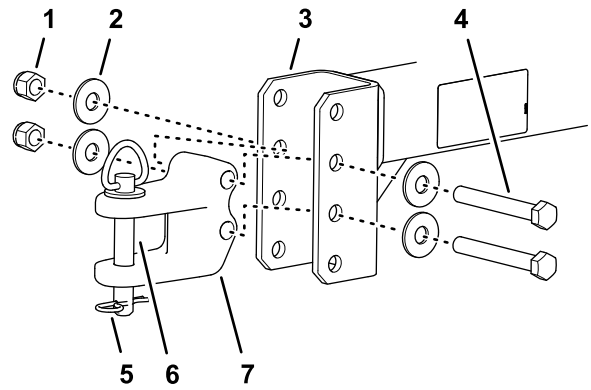

Figure 6
- Assemble the hitch clevis to the tongue with the 2 capscrews, 4 washers, and 2 locknuts (Figure 6).
- Secure the hitch to the drawbar with the hitch pin and hairpin (Figure 6).
- Adjust the position of the hitch clevis to the tongue so that the tongue is level with the drawbar of the traction unit (Figure 6).